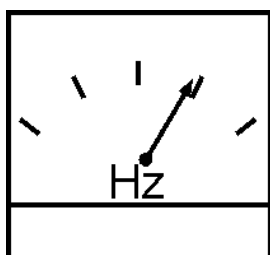

Figure 27. Frequency Meter
2. The generator's frequency meter (Figure 27) should be displaying the 60 cycle output frequency in **HERTZ**.